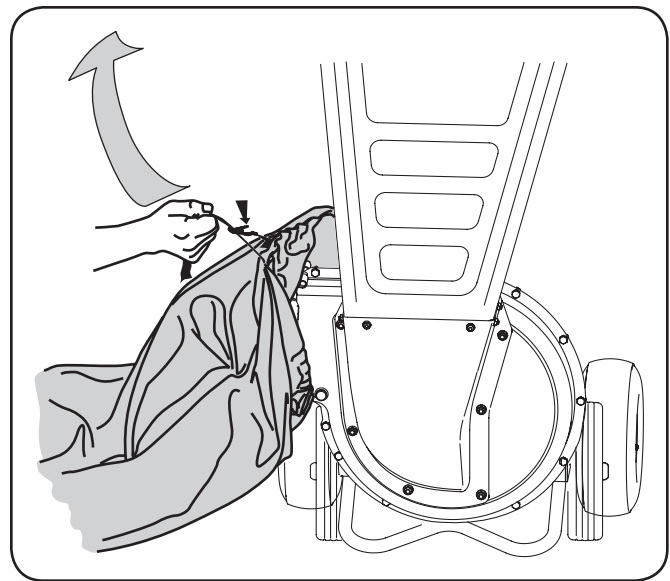

Figure 3-2
1. Place the opening of the bag completely over the chute deflector. See Fig. 3-2.